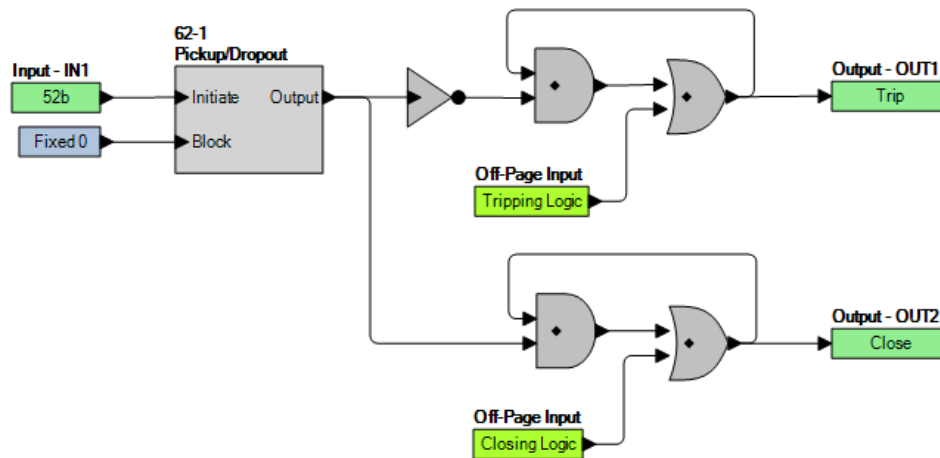

Figure 4-7. Contact Output Seal-In Logic Diagram
To prevent the output relay contacts from opening prematurely, a hold timer (200 to 2,000 ms) can be set with *BESTCOMSPius*. If the protection engineer desires seal-in logic with feedback from the breaker position logic, he/she can provide this logic by modifying the logic for the tripping output. To do this, use one of the general purpose timers (62) and set it for Pickup/Dropout mode. Set the timer logic so that it is initiated by the breaker position input and set the timer for two cycles pickup and two cycles dropout. The same can be done for the closing output. Figure 4-7 provides a seal-in logic diagram.